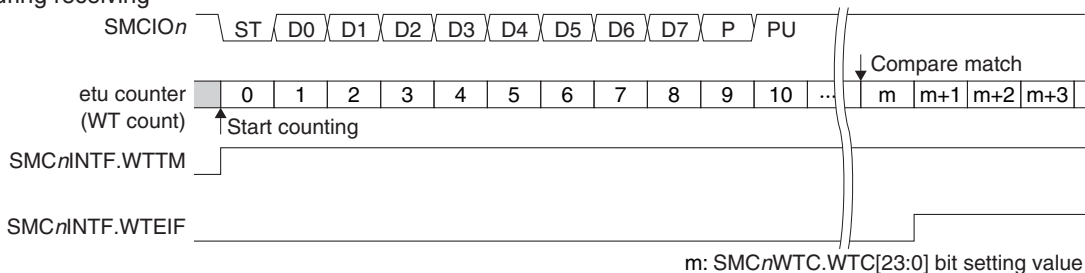

Figure 14.5.1 Guard Time and Wait Time Counter Operations
The minimum and maximum times (configurable in etu units) between the first characters of a frame and the next frame are defined as guard time (GT) and wait time (WT), respectively. SMCIF Ch.*n* has an embedded etu counter that counts the guard and wait times. Figure 14.5.1 shows the counter operations.